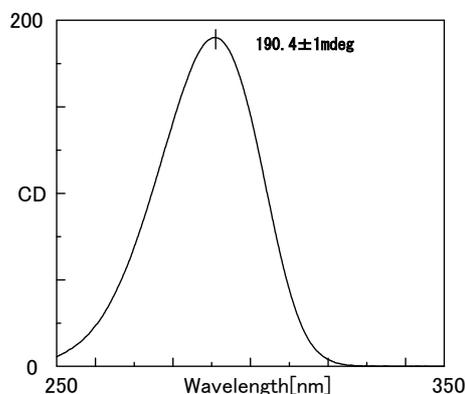

Fig. 4.12 CD spectrum of 0.06% ammonium d-10-camphor sulfonate
- (3) Fill the 10mm light path cell with 0.06% aqueous solution of ammonium d-10-camphor sulfonate (solvent : distilled water), and mount the cell in the sample chamber.
- (4) Select the [Start] command from the [Measurement] menu to make measurement.
- (5) Using the spectrum analysis program, confirm that the peak value of Channel 1 (Fig. 4.12) is 190.4 ± 1 mdeg (291.0 nm). If the peak value does not fall within this range, adjust the instrument according to the following procedure.